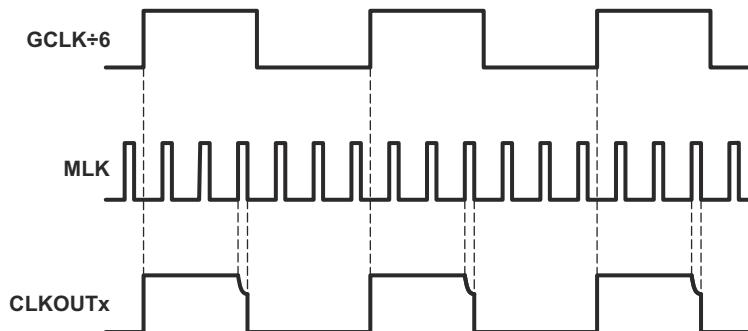

Figure 8-15. Gate Shaping Timing Diagram
- Gate voltage shaping starts on the rising edge of MCLK, which disables  $Q_1$  and enables  $Q_3$ . The LCD panel's pixel and storage capacitor now discharge through  $Q_3$  at a rate determined by the external resistor  $R_E$  (see Figure 8-15).